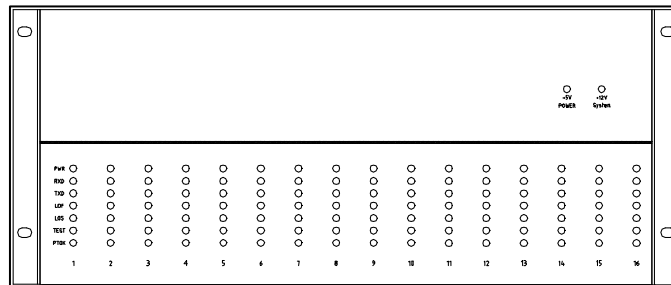
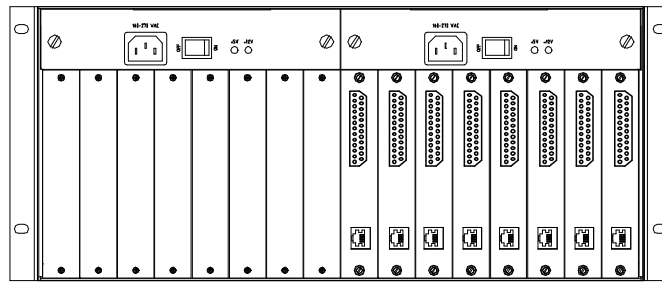

Figure 7 Front panel of RACK
Figure 8 Rear panel of RACK
- Front and rear panel of the rack mount, its shown in figure 7 and figure 8
Underneath the panel there are a indicator matrix. See figure 7 about the description of the front panel of Ethernet Interface Converter for its functionality.